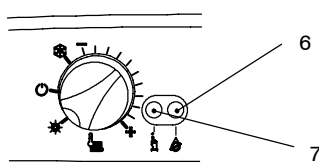

Fig. 3.2
**If the lock – out signal lamp (6 in Fig. 3.2) comes on**
To re – start the boiler, it is necessary to press the boiler reset button 7 (Fig. 3.2).